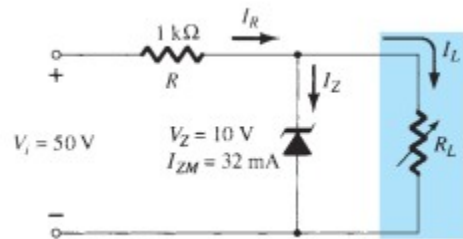

Fig. 7-11
- (a) For the network of Fig. 7-11 , determine the range of R_L and I_L that will result in V_{RL} being maintained at 10 V.